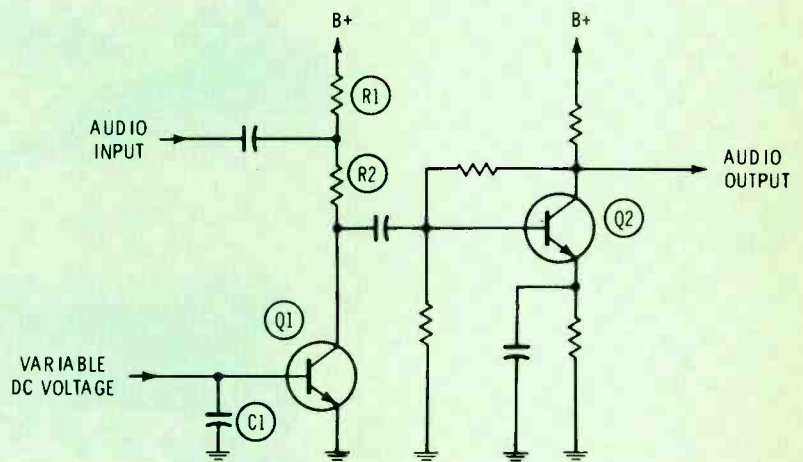
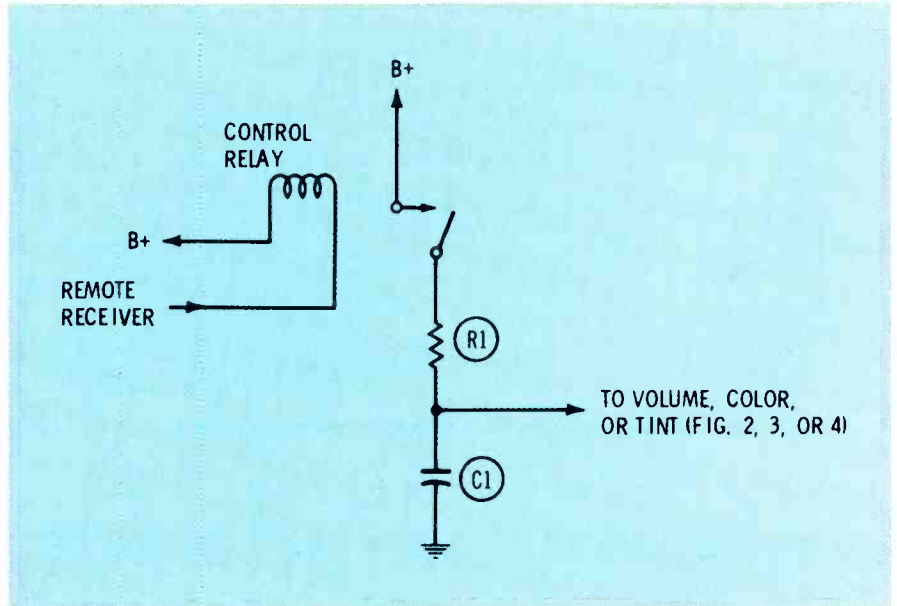
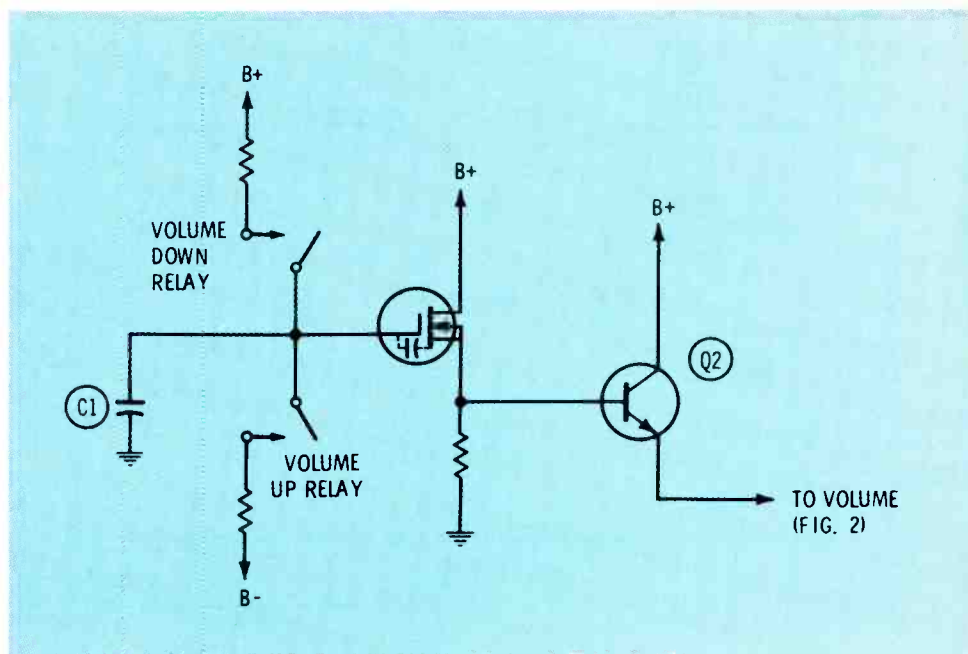
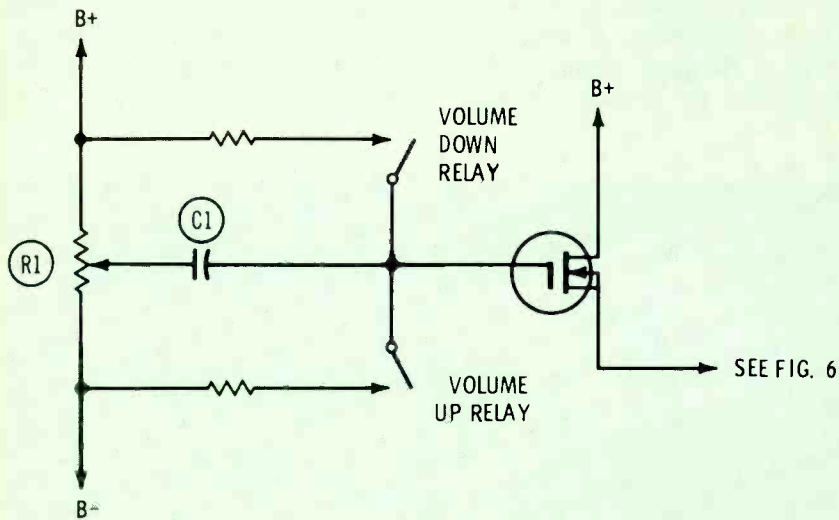

Fig. 2 Audio amplifier with DC volume control.
Fig. 5 Remote-control voltage source.
Fig. 6 Basic memory circuit and volume-control driver.
Fig. 7 Memory control circuit with local and remote inputs.
There is, however, another approach: The use of a transistor as a signal-shunting device. The fundamental circuit is shown in Fig. 2. If the base-bias voltage of Q1 is zero, Q1 appears as an open circuit from collector to ground, there is no attenuation of the signal passing to Q2, and the output volume is maximum. However, as Q1 is biased into conduction, the impedance from collector to ground decreases, reaching nearly zero when Q1 is saturated. As the collector impedance of Q1 decreases, more and more signal is dropped across R2, and the volume is progressively reduced. If the supply voltage for Q1 is large in comparison to the signal, the instantaneous changes in collector voltage, caused by the signal,
Obviously, the circuit in Fig. 2 could be adapted to control color level instead of volume, since the functions are essentially the same.
In the RCA CTC47, the volume-control circuit is similar to Fig. 2, but the **active** devices are contained in an integrated circuit (IC).
The circuit in Fig. 5, which has no memory capability, illustrates the point. Suppose the relay is closed by means of a hand transmitter and remote receiver. If R1 and C1 are very large, the voltage fed to the volume (or tint, or color) circuit will increase quite slowly, causing the volume to increase also. When the volume reaches a pleasant level, the operator releases the button and settles back to enjoy the program; however, C1 will gradually discharge through Q1 (of Fig. 2), and the volume again will increase back to maximum.
If discharge of C1 can be prevented, the volume will remain constant, once set, and memory will have been achieved. In Fig. 6, the basic configuration of a memory circuit is illustrated. In this circuit, the capacitance between gate and channel of the MOSFET, Q1, will charge towards B+ any time the contacts of K1 are closed. However, since the input capacitance of Q1 is about 5 pf, a charging resistance of several thousand megohms would be necessary to make the charging time long enough for a person to control it. To increase the charging time, C1 (about 1 mfd) is connected to ground.
In addition to remote control, normally it is desirable to allow control of volume, tint and color at the receiver itself. One method of modifying the circuit of Fig. 6 to allow local control is to simply connect pushbutton switches across the "up" and "down" relay contacts. The use of remote controls which require that the button be depressed long enough for the function to change are acceptable, but people generally object to similar "time-consuming" controls located on the receiver itself. For some reason, a potentiometer type of control on the receiver is more pleasing. Also, as we shall see in the circuits described below, use of the potentiometer in the receiver improves the memory function.
In Fig. 7, C1 is returned to the wiper of a local-control potentiometer instead of ground; otherwise the circuit is the same as Fig. 6. However, in Fig. 7 the voltage on the gate of the MOSFET **will be almost exactly the same as the voltage at the potentiometer wiper**. This can be understood better if we consider C1 and the input capacitance as a voltage divider connected from the potentiometer to ground. Because the voltages across series capacitors are inversely proportional to their capacitances, and the value of C1 is about 200,000 times the input capacitance of Q1, essentially **all** the applied voltage is present on the MOSFET gate.
Assume that R1 in Fig. 7 has been set to produce normal volume, and +3 volts exists on the MOSFET gate. By actuating the remote "volume down" switch, the appropriate relay contact is closed and both C1 and the MOSFET input capacitance are charged to some higher voltage—in this example, 4 volts. Since the voltage **across** C1
is only 1 volt, instead of 4 volts as it would be in Fig. 6, the leakage current is one fourth as great, and memory is increased by a factor of four. (Since the gate resistance is almost infinite, the leakage current
through it can be ignored.) Furthermore, even if C1 leaks significantly, the volume will return to the original level determined by R1 instead of to maximum, to which it would return in Fig. 6.
The first step in servicing motorless remote control is to determine if failure of the system to respond to a command is the fault of the **control** circuits or the **controlled** circuit. This can be done quickest by disconnecting Q2 in Fig. 6 from the volume-controlled circuit in Fig. 2 and supplying a variable voltage to the **controlled** stage from some other source. The wiper of the local-control potentiometer is a convenient source. If this restores operation, the **controlled** circuit is okay. If it does not, check the **controlled** circuit, using conventional troubleshooting techniques (voltage and resistance measurements, etc.).
If both **remote and local** controls are inoperative, look for a failure in either Q1 or Q2 in Fig. 6. Disconnect the input to Q2 and supply a DC voltage from a battery and series resistor, or, if you prefer, check the transistor.